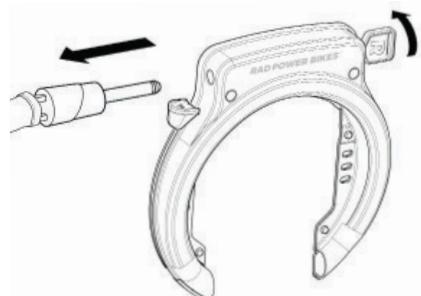

Figure 14: Remove the security chain
- c. Then turn the key clockwise again as you remove the security chain from the lock (Figure 14).